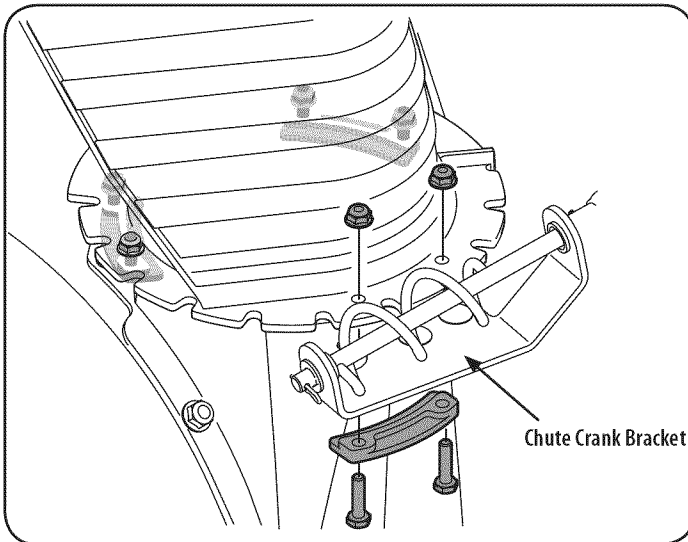

Figure 5
2. Loosen, but do not remove, the chute crank bracket in order to attach the chute assembly. See Figure 5.
4. Secure flange keeper removed in Step 1 with lock nuts and screws. Tighten down nuts securing the other two flange keepers. See Figure 5.